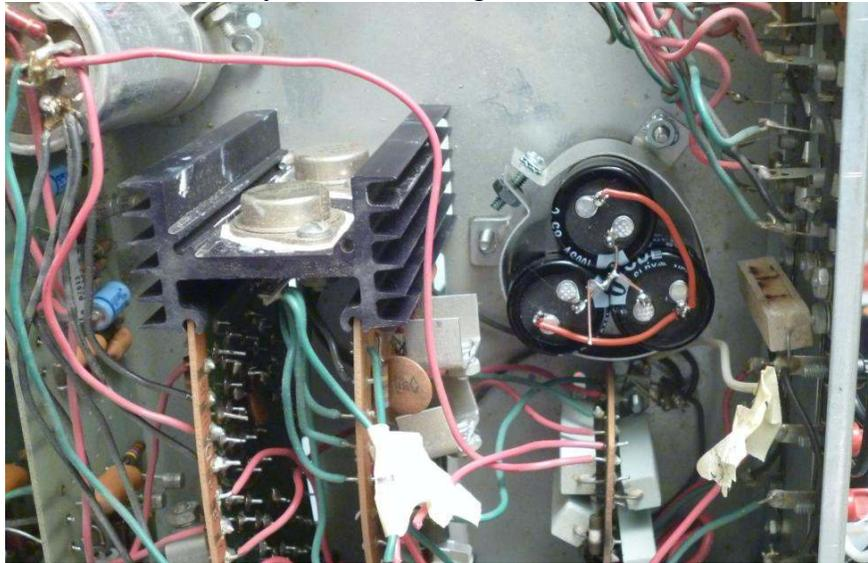

Figure 5-Note the orientation of the capacitor assembly when installed into the amplifier
2. Orient the new assembly as shown in Figure 5.